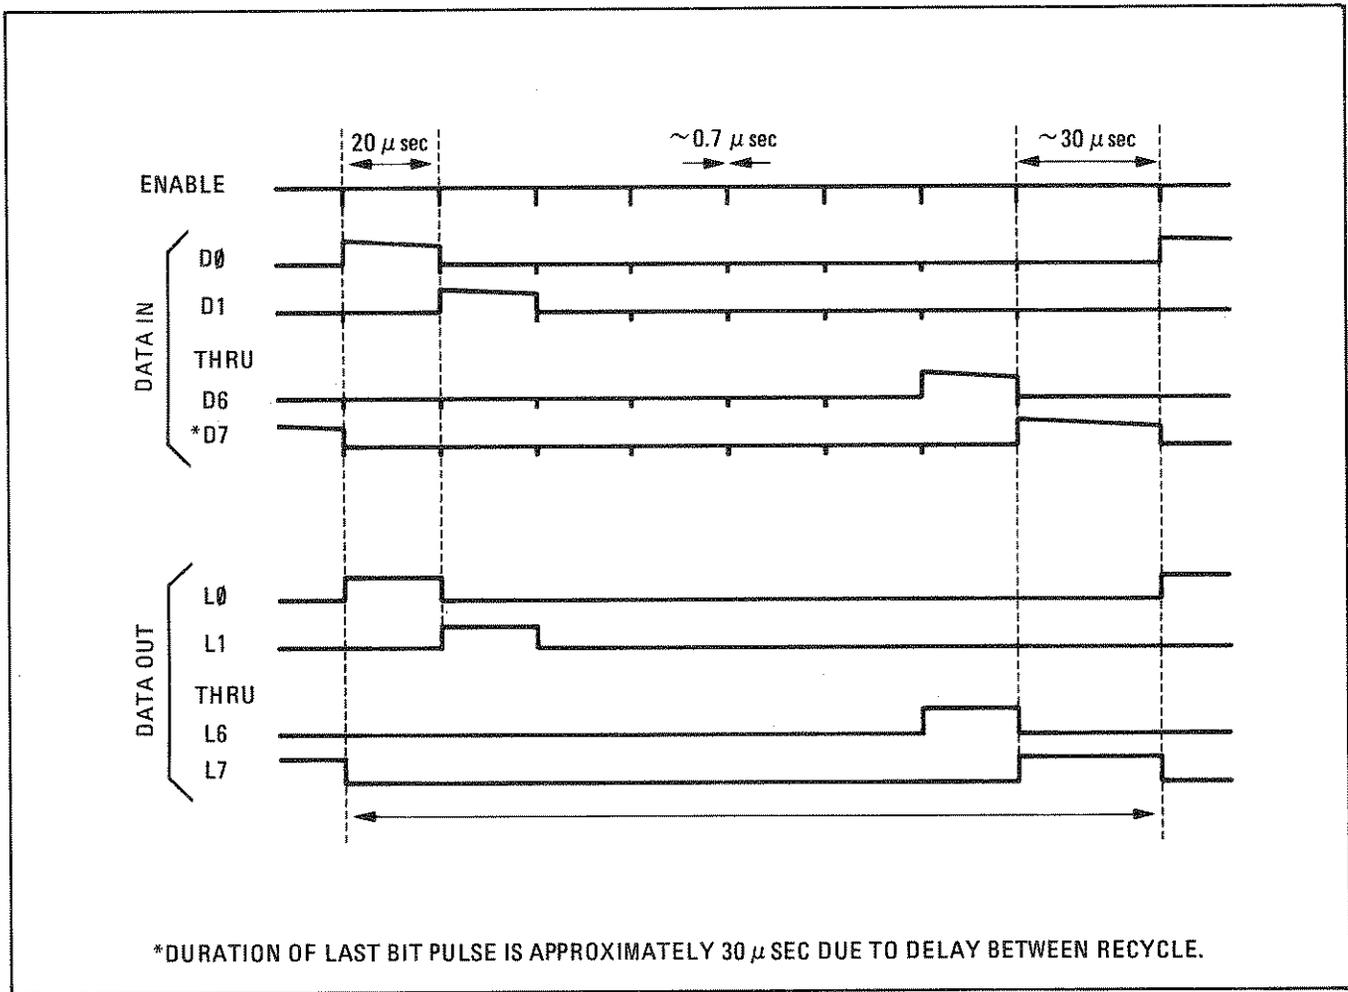

Figure 8-2. Hex Data Rotation Write-Bit Pattern
- HEX DATA ROTATION WRITE, M4, strobes a '1' (high state) through a column of zeroes (low states) to the addressed device. In effect, Hex Data Rotation Write is a rapid WRITE mode, exercising the addressed device in real time. The microprocessor inputs the data continuously, without servicing interrupts from the rest of the instrument. Latch enable lines, inputs, and outputs can be checked in this mode. Figure 8-2 illustrates the appropriate waveforms.